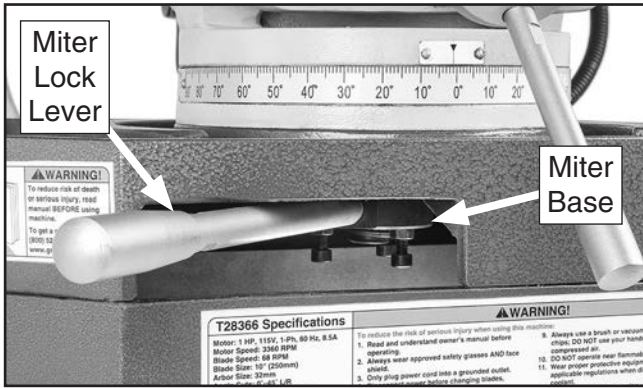

Figure 17. Miter lock lever installed.
6. Thread miter lock lever into miter base (see **Figure 17**).